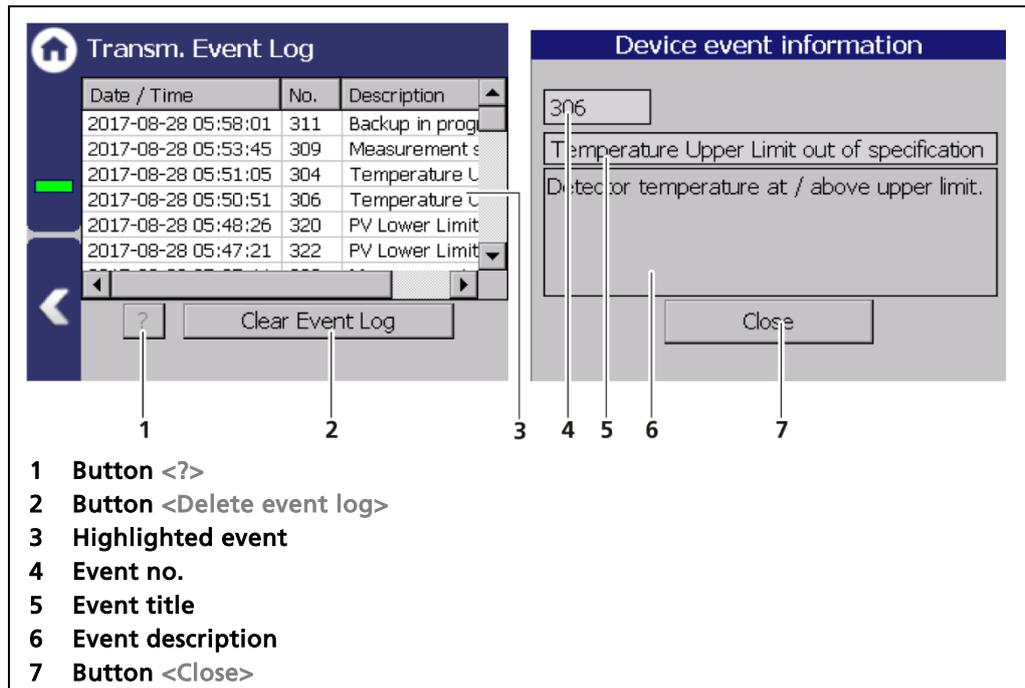

Fig. 115 Transmitter Event Log description
1. Click on a line in the list (Fig. 115, item 3).
2. Click on <?> (Fig. 115, item 1).
3. Close the event description (Fig. 115, item 7) with the button <Close>.
With the button <Delete event log> (Fig. 115, item 2) all events are deleted.